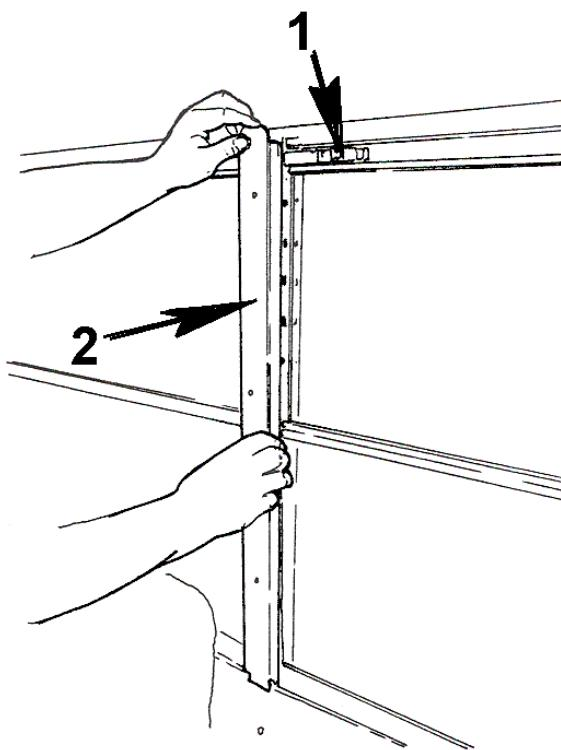

Figure 170 Passenger Window Cover Plate Mounting
- a. Remove the four mounting screws securing the window mounting cover plates each side of the window assembly (see Figure 170).